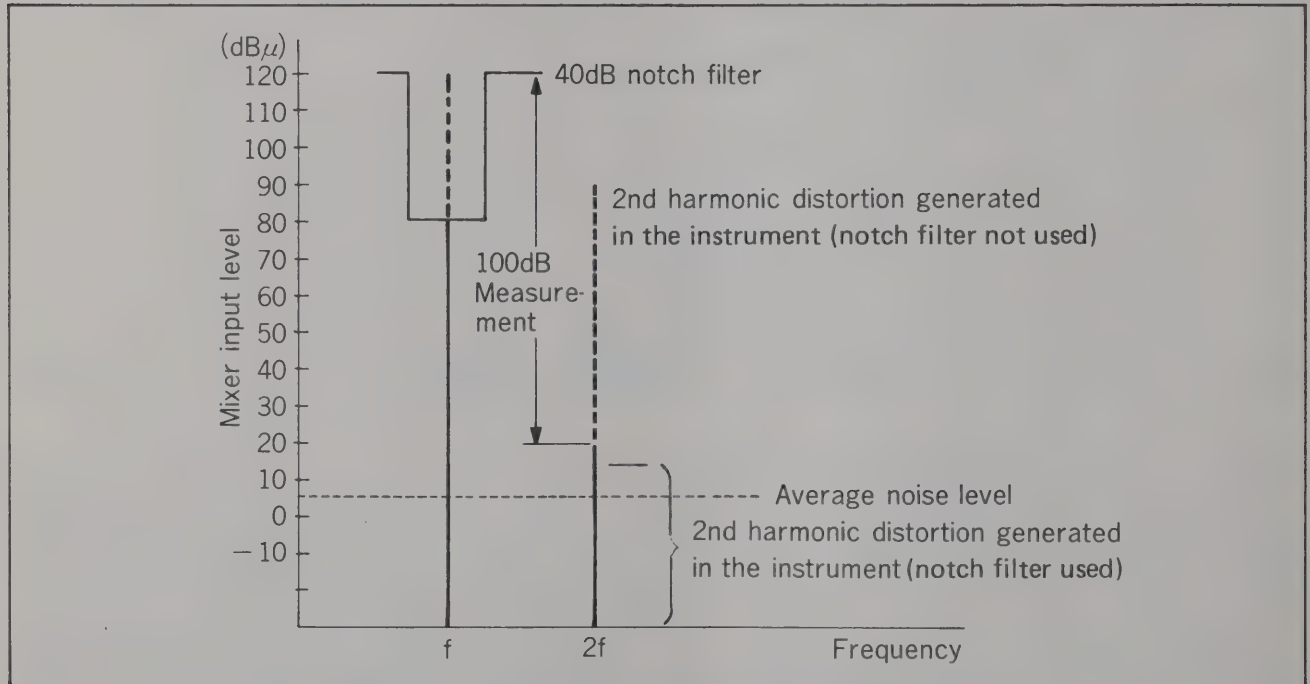

Figure 3.18 Expansion of Dynamic range using a notch filter
**3.5.4.3** When measuring low level distortion signals, the use of a rejection/notch filter for the fundamental signal is recommended. By inserting the filter between the unknown signal and the unit's INPUT, the dynamic range of the unit is increased along with a corresponding increase in the distortion measurement capability (see Figure 3.18). For example, if a fundamental signal at a level of 120 dBuV and with a second harmonic 100 dB down (20 dBuV) is applied via a 40 dB notch filter to the instrument's INPUT the input level of the fundamental is reduced to 80 dBuV. By decreasing the fundamental input level, the level to the 1st MIXER stage is reduced (and thus decreasing the second harmonic outputs generated by the mixer) permitting accurate measurements of second harmonics down 70 dB from the fundamental level. Thus a second harmonic, with a 20 dBuV level, can be accurately measured since the fundamental level is at 80 dBuV instead of 120 dBuV.